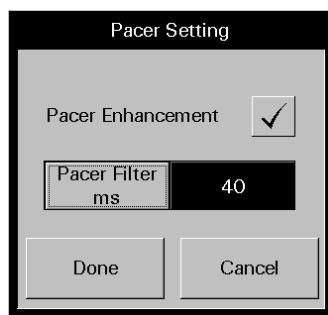

FIGURE 5-8 Pacer Setting Dialog Box
- **Pacer Enhancement** visually marks pacemaker-induced ECG complexes with a colored vertical spike. It can be enabled or disabled in the **Pacer Setting** dialog box (shown in FIGURE 5-8).
- **Pacer Filtering** adjusts the time period during which pacemaker-induced ECG complexes are filtered for ECG sampling. The preset options for the Pacer Filter are 0 to 80 ms (in increments of 20). The Pacer Filter is selected in the **Pacer Setting** dialog box (shown in FIGURE 5-8).